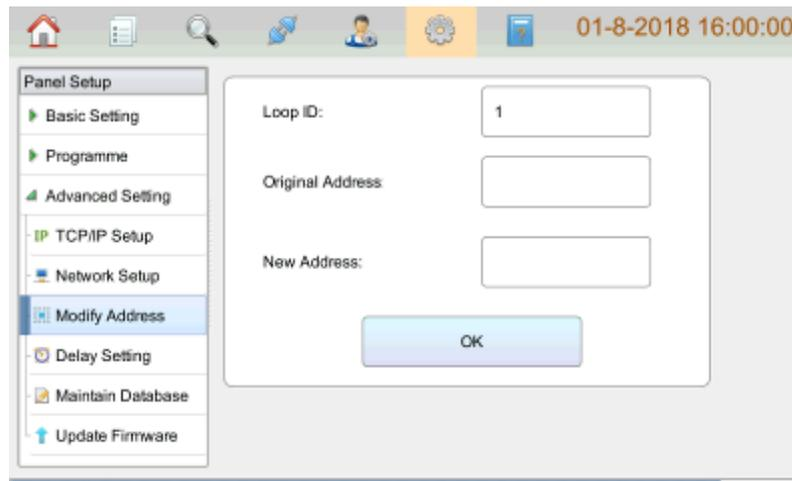

Fig 4.34
- Modify Address: Users can modify a device address in a loop by clicking **Modify Address** in **Advanced Setting** menu as shown in Fig4.34. Please modify the device address based on the actual situation, pay attention not to make the new device address repeated with others.